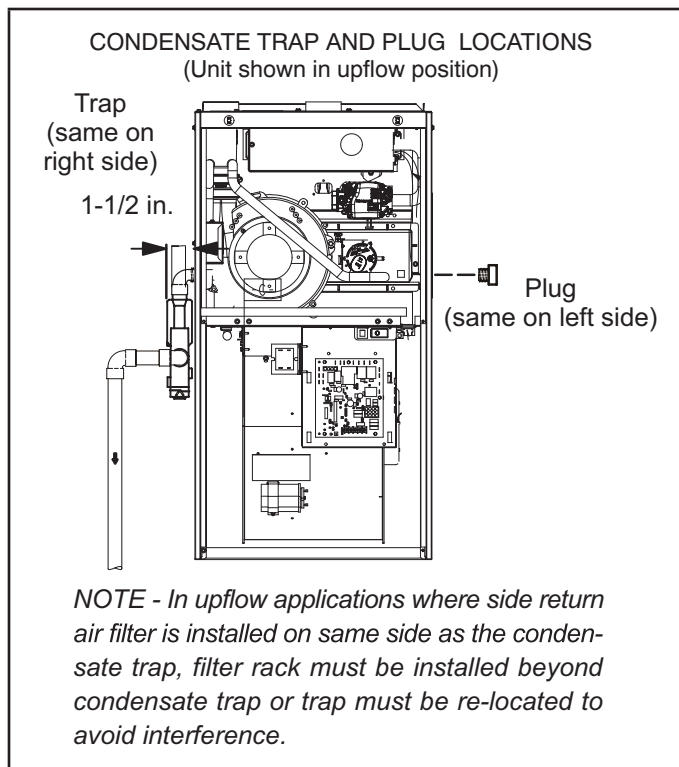
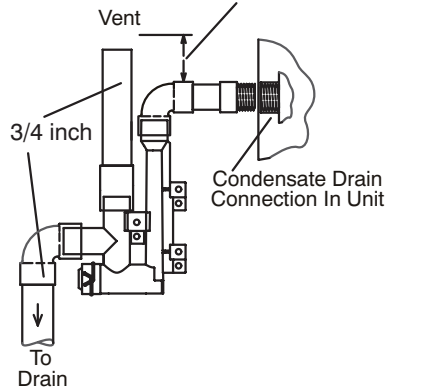

Figure 46
Figure 54
Refer to Figure 46 and Figure 48 for condensate trap locations. Figure 54 shows trap assembly using 1/2" PVC or 3/4" PVC.
- 2 - Use a large flat head screw driver or a 1/2" drive socket extension and remove plug (figure 46) from the cold end header box at the appropriate location on the side of the unit. Install provided 3/4 NPT street elbow fitting into cold end header box. Use Teflon tape or appropriate pipe dope.
- 3 - Install the cap over the clean out opening at the base of the trap. Secure with clamp. See figure 54.
- 4 - Install drain trap using appropriate PVC fittings, glue all joints. Glue the provided drain trap as shown in Figure 54. Route the condensate line to an open drain. Condensate line must maintain a 1/4" downward slope from the furnace to the drain.